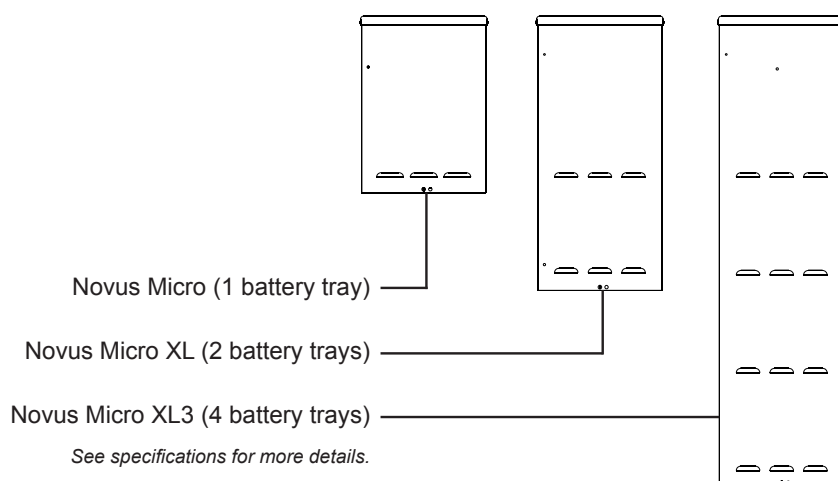

Figure 1.3.1 – Novus Micro Family
Figure 1.3.1 shows the three different enclosures, (1) the standard Micro, (2) the Micro XL, and (3) the Micro XL3. Each of these enclosures can be configured with the 300W, 600W or the 1000W power module (E-Module). Although the end system configuration may look different, the front panel connectors and circuit breakers along with the input and output terminal blocks are functionally the same. They all operate in the same way unless otherwise stated in this manual. See the *Specifications* section for more details.